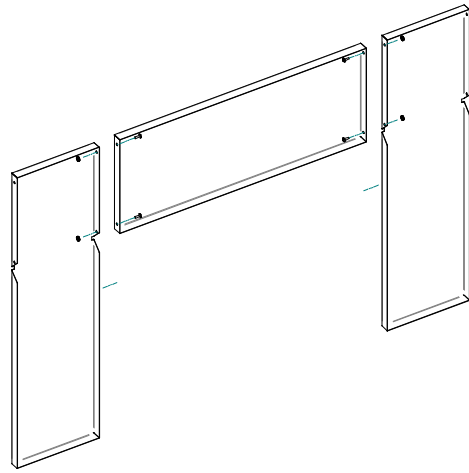

Figure 2.5a
3. Line up the holes of the side and top panels and secure with the four (4) screws and nuts. (see Figure 2.5a)